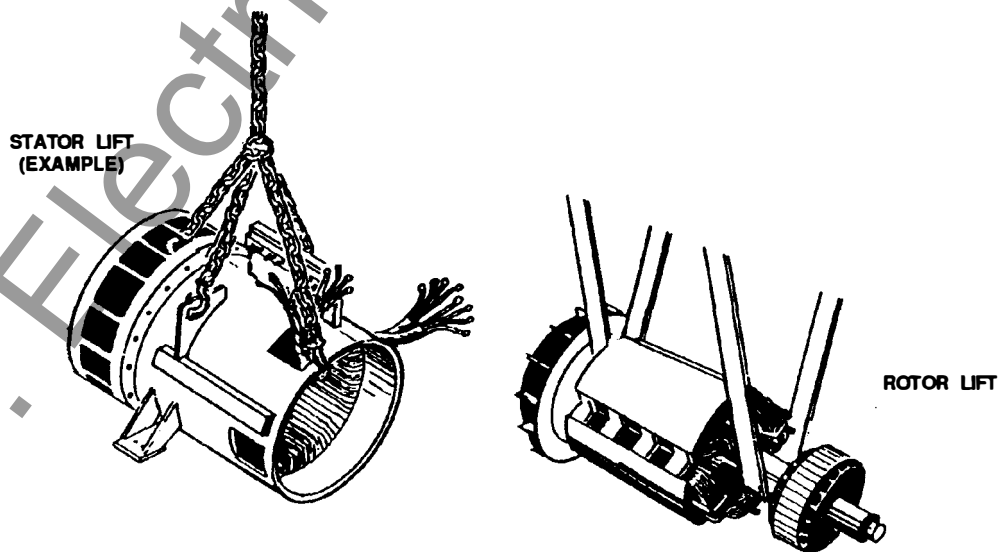

FIGURE 6-5. TYPICAL GENERATOR ASSEMBLY
25. Reposition or add hoist and sling support for the main rotor, and remove the forklift. See Figure 6-5, Rotor Lift detail.
30. Using an adequate lifting device, lift the generator (at lifting eyes provided, and main stator housing) until the mounting feet brackets are clear of the frame member (see Figures 6-5 and 6-6).